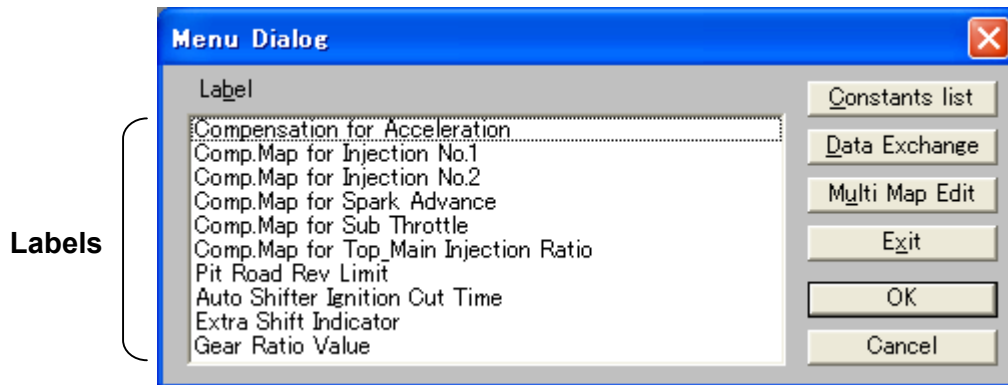

Fig. 18 Menu Dialog (in case of ZXT00E)
(5) The Menu dialog screen shown in Fig. 18 appears.